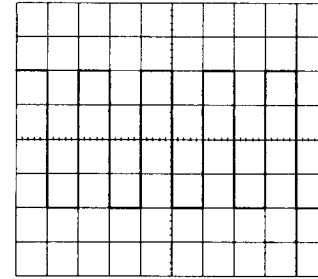

Figure 4-3
- 5) Set the AC-GND-DC switch to the AC state. A waveform as shown in the figure 4-3 will be displayed on the CRT screen
- 8) Adjust the ▲ ▼ POSITION and ◀ ▶ POSITION controls in appropriate positions so that the displayed waveform is aligned with the graticule and voltage( $V_{p-p}$ ) and period(T) can be read conveniently. The above are the basic operating procedures of the oscilloscope. The above procedures are for single-channel operation with CH 1. Single-channel operation with CH 2 can also be achieved in a similar manner. Further operation methods are explained in the subsequent paragraph.